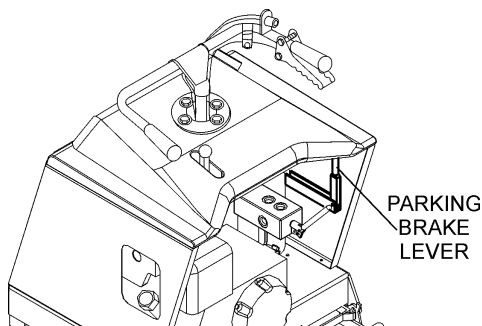

Figure 13. Parking Brake Lever
1. Engage the parking brake lever (Figure 13) and attempt to rock the buggy back and forth. If the wheels turn during the rocking motion, adjust the brakes as outlined in the maintenance section of this manual.
2. Engage the parking brake (Figure 13).